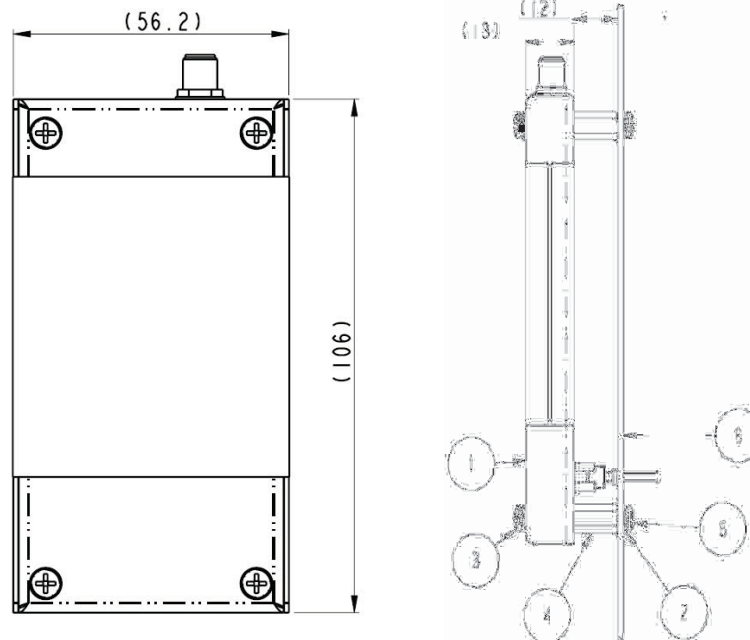

Figure 4: Assembly Item Number Identification.
Item Numbers in Figure 4 are described in Table 3. Not to scale. Dimensions in millimeters.
Table 3: Item Number Description for Figure 4
1. Item 1 is a generic, developer provided PCB design and shown for illustrative purposes. This item is the same as Item 6 in Figure 4.